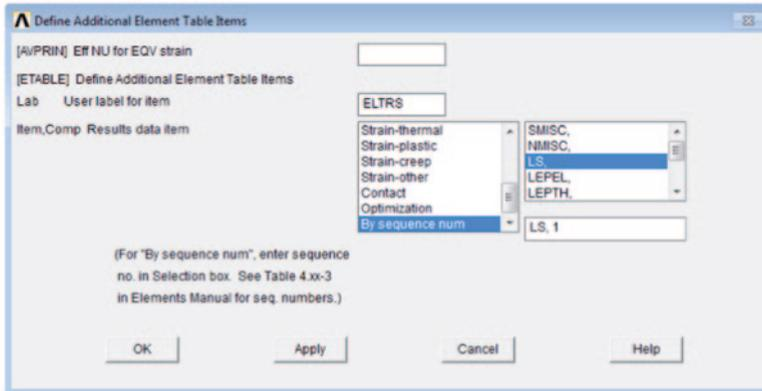

Fig. 8.3 Dialog box for retrieving element results based on sequence numbers
- *Element Table Data* dialog box appears. Click on **Add**, which brings up the *Define Additional Element Table Items* dialog box. Enter a label (**Lab**) for element stresses, say **ELSTRS**. Scroll down in the left list; click on **By Sequence num**; click on **LS** in the right list. Finally, enter **LS,1** in the last text field, as shown in Fig. 8.3; click on **OK**.